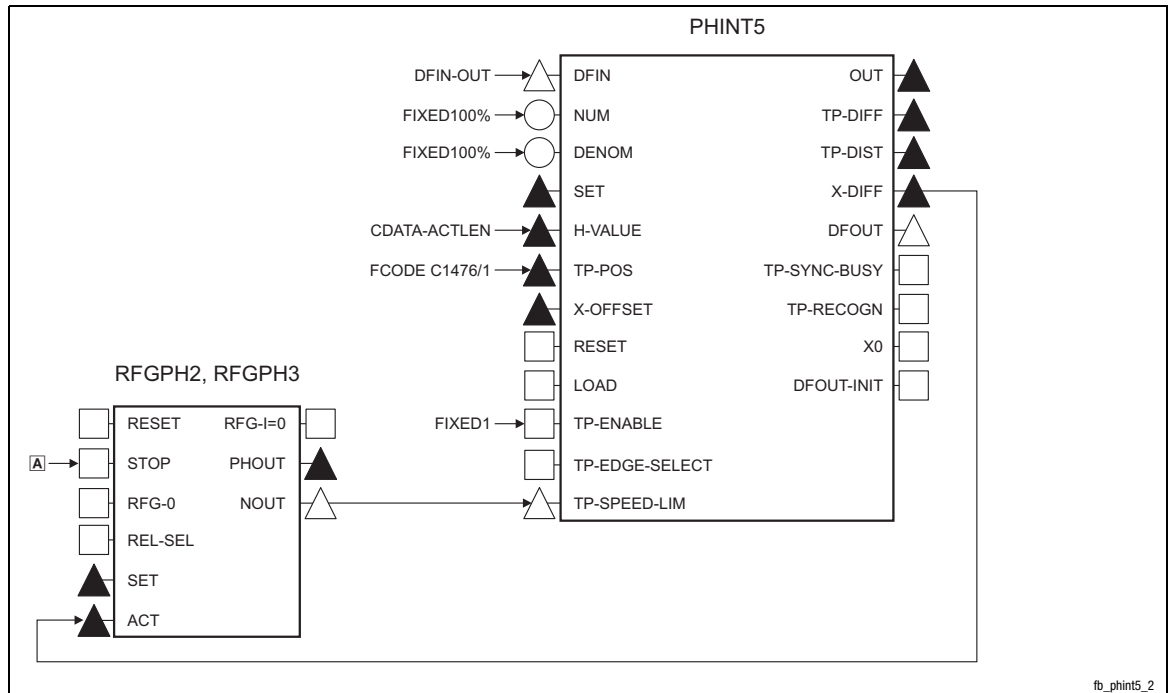

Fig. 3-205
- The PHINT5 function block does not contain a profile generator. The profiles have to be generated via additional function blocks (e.g. RFGPH2 or RFGPH3). See also example in fig. 3-205.